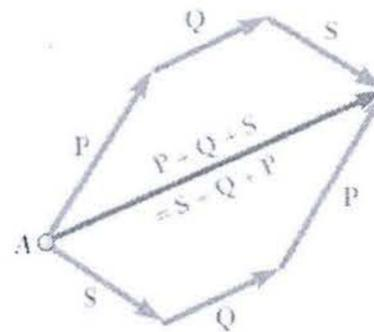

Figure Q2a Vector addition
- (a) With reference to Figure Q2a, explain the term “*Associative*” when adding a number of vectors. [4]